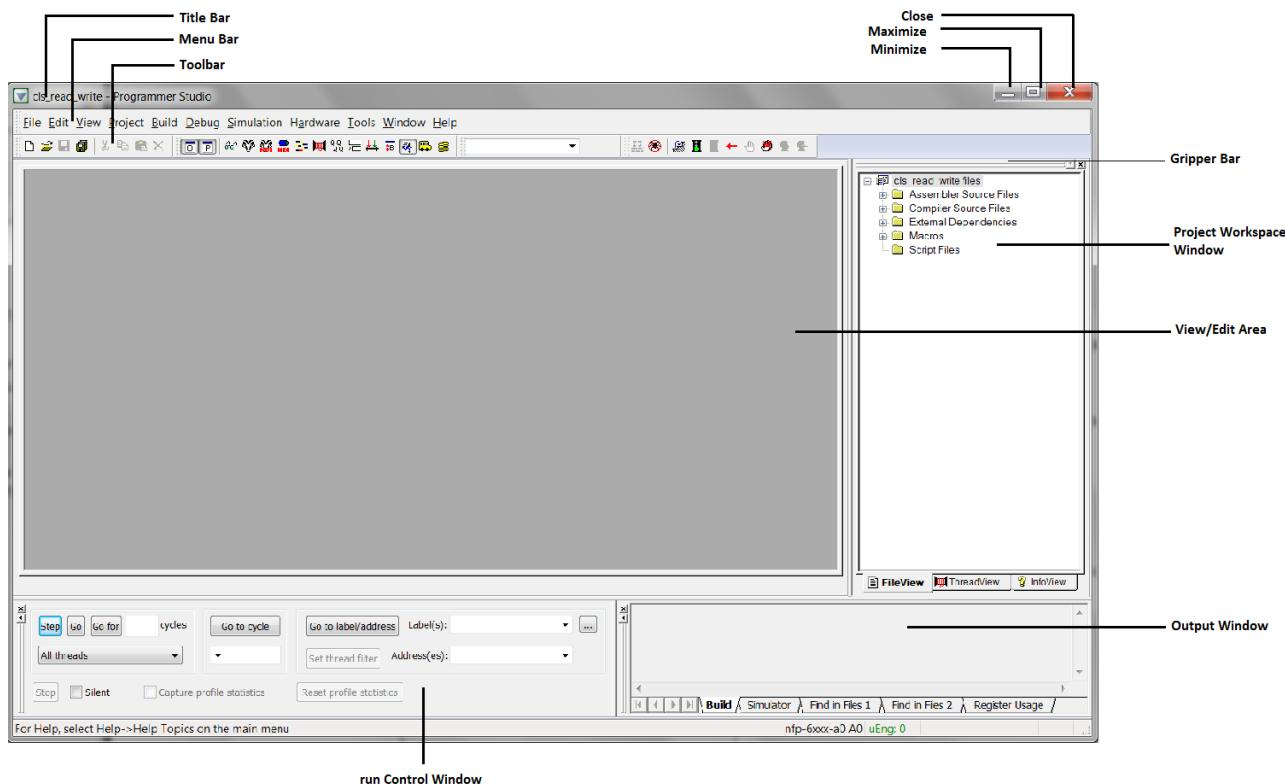

Figure 2.1. The Programmer Studio GUI
- In the **Project Workspace** window (see Figure 2.1), click the **InfoView** tab. This give you access to documentation installed along with the Software Development Kit (SDK). See Section 2.4.3.
The Programmer Studio GUI (Figure 2.1) conforms to the standard Windows look and feel. You can do the following:
To float, or undock, a window or toolbar, double-click its gripper bar (see Figure 2.1). To restore it to its previously docked location, double-click its title bar. You can also drag the window to a new docking location.
Workbook This control puts the tabs at the bottom of the view/edit area (see Figure 2.1). Without the tabs you must use other methods to select different windows, such as going to the Window menu and selecting the window; cascading the windows using the button and selecting with the mouse pointer; or pressing CTRL+F6 to switch from one window to the next. Removing the tabs gives you more workspace in the windows.
Output Windows Output window displays the results of Find in Files, assembly and compile results, build results and other messages (see Figure 2.1).